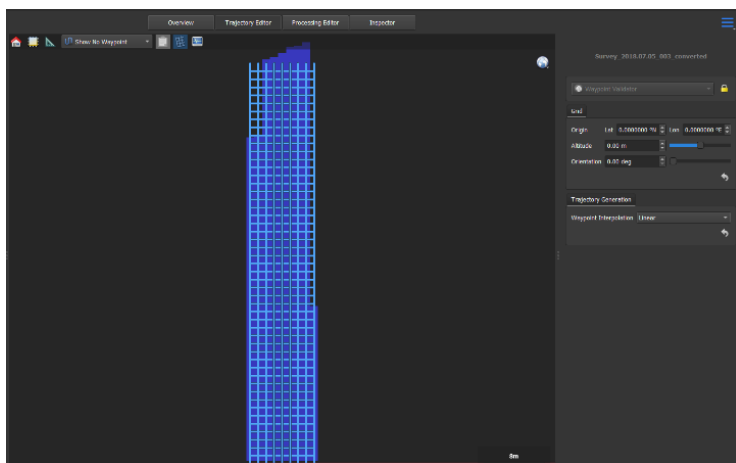

Fig. 74 – GRID repositing
The User may decide to locate the acquired GRID, directly on IQMaps by selecting the **Trajectory Editor** tab. In the right side of the main window a settings tab will appear (Fig. 74) allowing the User to:
- Modify the GRID **Orientation** basing to Y axis direction (Fig. 74).